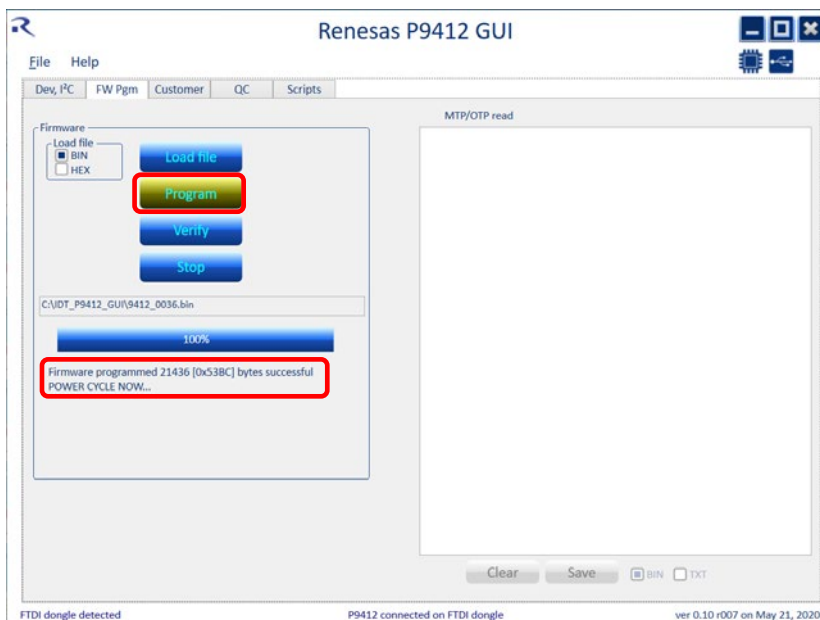

Figure 8. MTP Programming Successful
| Figure 8. | MTP Programming Successful..... | 10 |
- After loading the file, press the “Program” button, the MTP will be programmed and the GUI will indicate if successful or if there were errors. See Figure 8, which indicates that the programming was successful. If there are any errors during programming, attempt to program again.